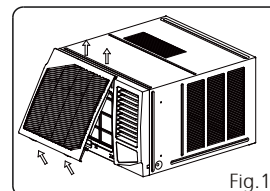

Fig.1
2. Hold the slot under the front panel, then uplift it outwards, and remove the front panel (See Fig. 1).